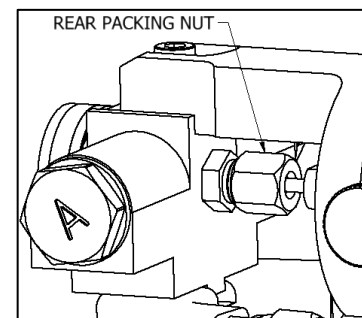

Figure 13: Rear Packing Nut
1. **Rear Packing Nut** (see Figure 13) should be initially installed finger-tight, then turned with a 1/2" wrench one half turn.